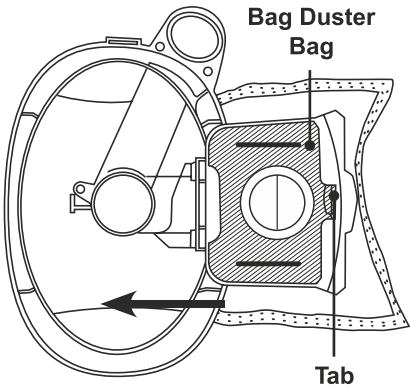

Fig 19
3. Holding the Dust Bag in your hand, slide it out from the slots in the bag holder. Hold carefully in order to avoid having dust fall out of the Dust Bag. (Fig.19)